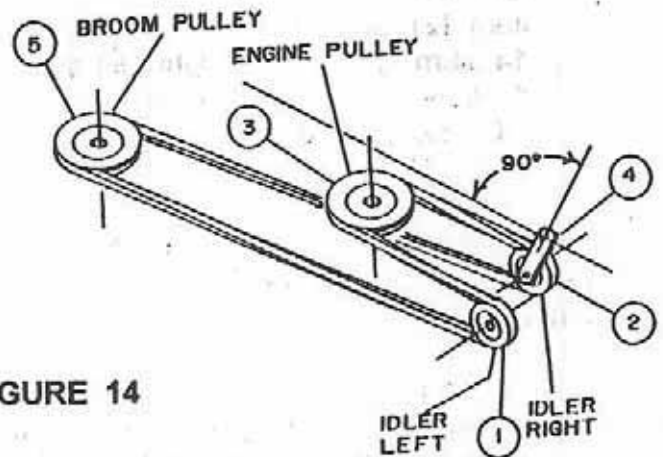

FIGURE 14
- d) Route the broom drive belt in the subframe, inside left belt guide (fig. 1, item 12), around the "V" idler pulley (fig. 14, item 1) inside the right belt guide (fig. 1, item 14), around "v" idler pulley (fig. 14, item 2) and around the tractor drive pulley (fig. 14, item 3).
**NOTE:** Be careful the left V-belt section between the two pulleys (fig. 14 item 1 & 5) is not twisted.